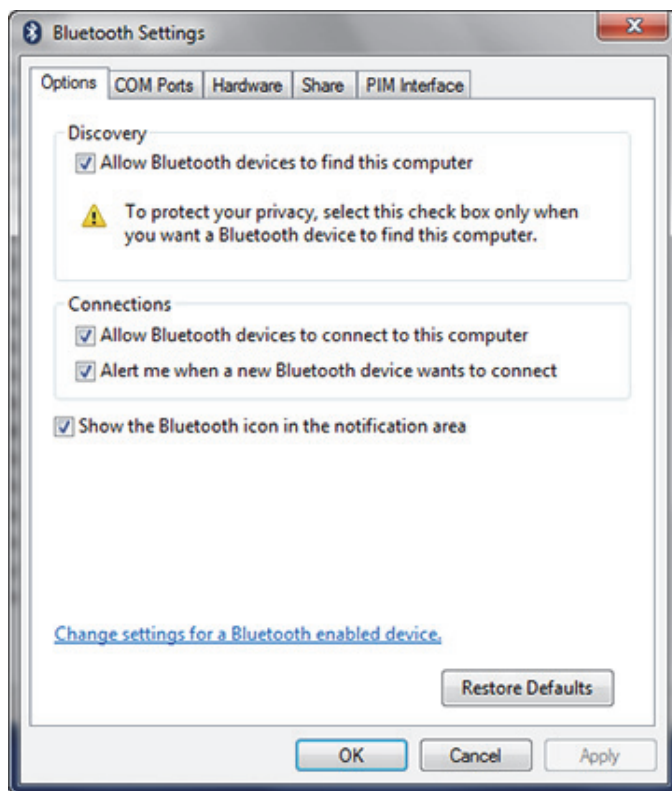

Figure G-4 Bluetooth® Settings — Options tab
2. Make sure that all the boxes in the **Options** tab are selected, and then click **OK** (see Figure G-4 on page 178).